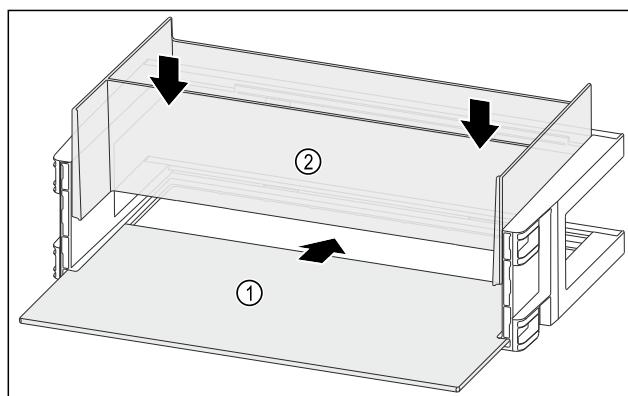

Fig. 135
- Push the shelf Fig. 135 (1) into the side recesses.
- Insert the organiser Fig. 135 (2).